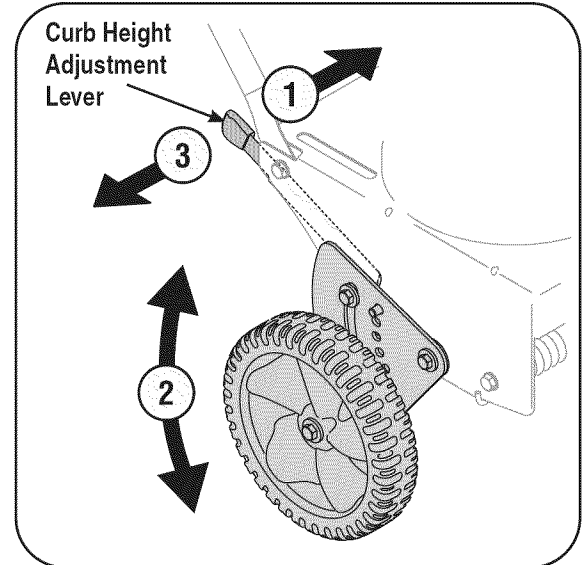

Figure 5-9: Use Curb Height Adjustment Lever to adjust the curb wheel height.
1. Lower the right, rear wheel by moving the curb height adjustment lever slightly to the left, Figure 5-9.